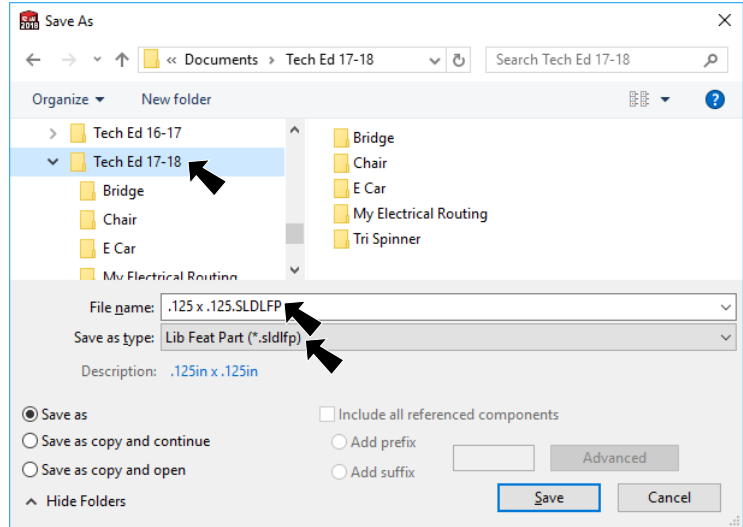

Fig. 11
Step 3. In the Save As dialog box, **Fig. 11**